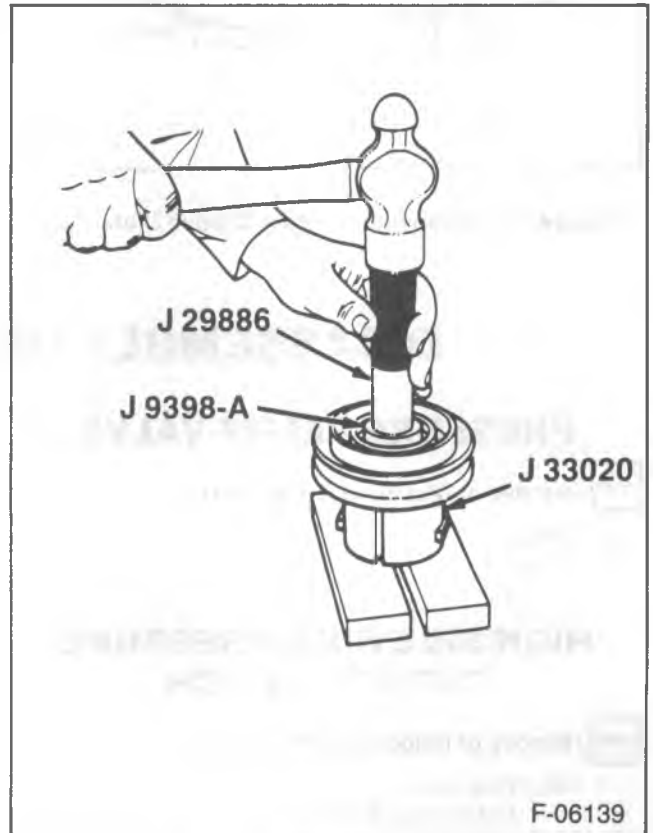

Figure 13—Bearing Removal
5. The bearing from the hub using J 9398-A and J 29886 (figure 13).